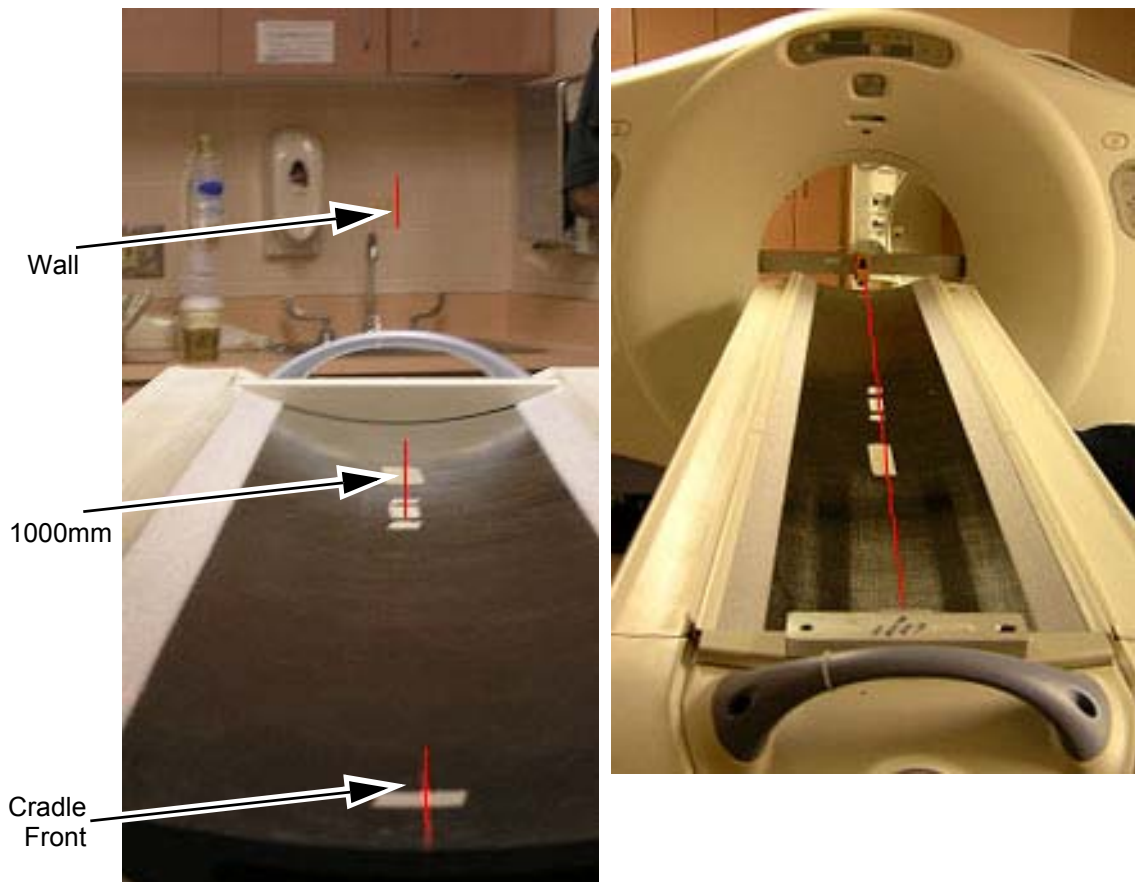

Figure 1-36 Alignment Laser Marks - Table & Wall
- 7.) The laser beam should now connect the cradle front centerlines, the 1000 mm cradle center line, onto the rear alignment tool vertical center and finally onto the alignment centering mark placed on the wall. The centering alignment line on the wall is used to be sure the laser is still centered. If the alignment line on the wall is NOT on the original mark, readjust the laser and repeat the above steps. See Figure 1-36.